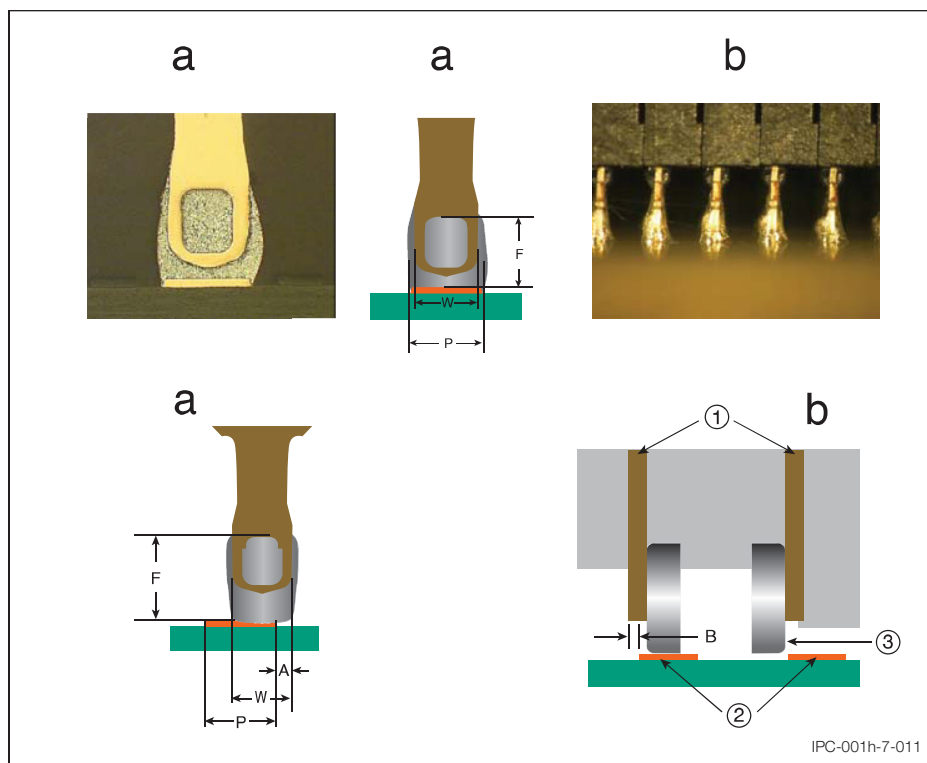

Figure 7-11 Butt/I Terminations for Solder Charged Leads
7.5.10.2 Butt/I Terminations – Solder Charged Terminations These criteria are for components designed with a hole or holes in the lead, a bump on the bottom to assure a good (G) fillet thickness across most of the bottom, and an attached solder slug to control the amount of solder. Connections formed to solder-charged leads positioned perpendicular to a circuit land in a butt/I configuration **shall [D1D2D3]** meet the dimensional and solder fillet requirements of Table 7-11, see Figure 7-11. The top hole of a solder charge termination with two holes is not required to be filled. Additional testing such as shock and vibration may be required depending on the end-use environment.